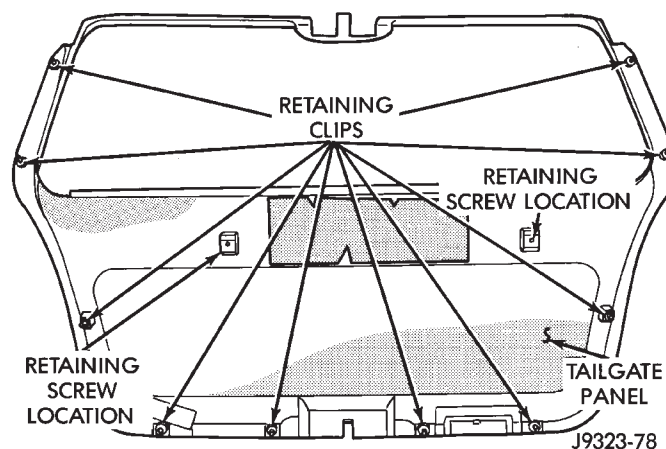

Fig. 22 Liftgate Retainer Location
- (2) Use a trim panel removal tool to detach panel retainers from liftgate (Fig. 22).
- (1) Position trim panel on liftgate.
- (2) Align trim panel retainers with holes in liftgate inner panel. Force trim panel inward to seat retainers in holes (Fig. 22).